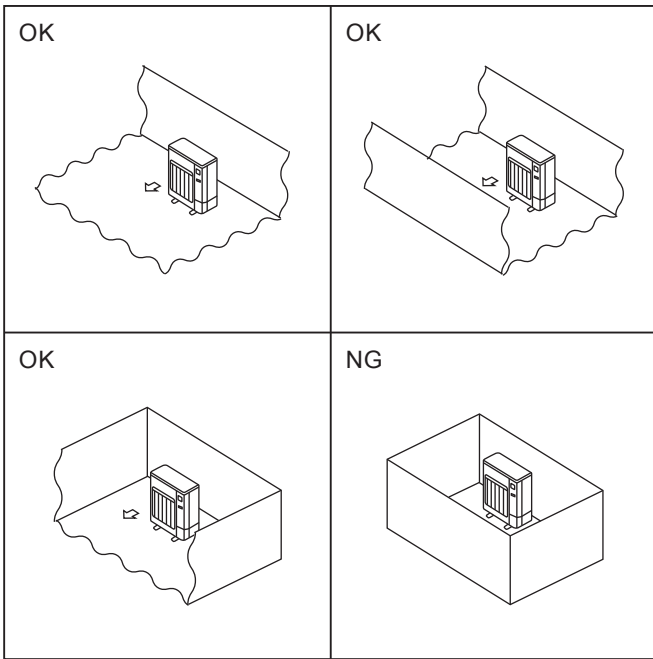

Fig. 2-2
- ⊙ Install outdoor units in a place where at least one of the four sides is open, and in a sufficiently large space without depressions. (Fig. 2-2)